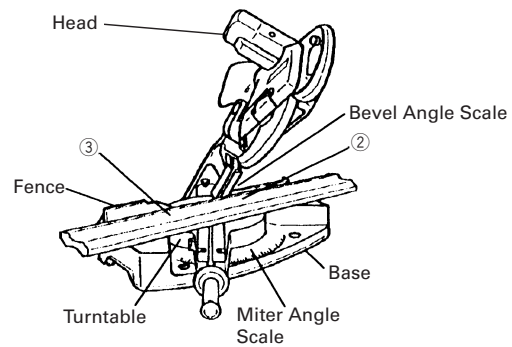
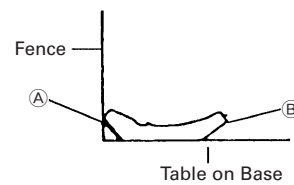

Fig. 43
Fig. 45
(4) Setting to cut crown moldings at positions ② and ③ in Fig. 36 (see Fig. 43; tilt the head to the right):
- ① Turn the turntable to the left and set the Miter Angle as follows:
- ② Tilt the head to the right and set the Bevel Angle as follows:
- ③ Position the crown molding so that the lower surface (A in Fig. 35) contacts the fence as in Fig. 45.